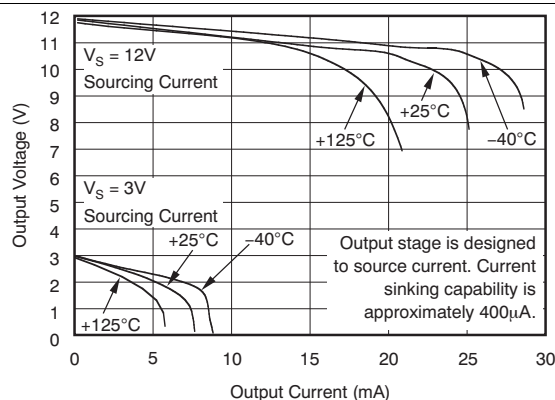

Figure 7. Positive Output Voltage Swing vs Output Current
(1) Total output error includes effects of gain error and V_{OS}.
(2) For details on this region of operation, see the Accuracy Variations as a Result of V_{SENSE} and Common-Mode Voltage section.
(3) See Typical Characteristic curve *Output Swing vs Output Current*, Figure 7.
(4) Specified by design.